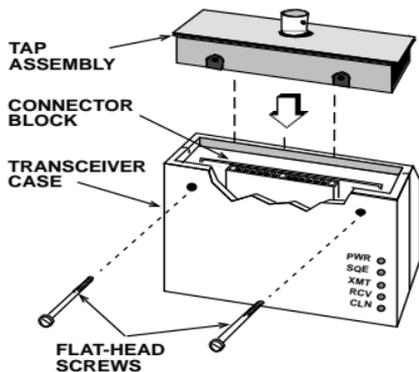

Figure 2-9. Installing the Tap
1. Remove the two flat-head screws from the transceiver case and insert the tap into the rectangular opening in the case (see Figure 2-9). Make sure the tap pins are aligned with the connector block on the transceiver circuit board.
2. Insert and tighten the flat-head screws (see Figure 2-9).